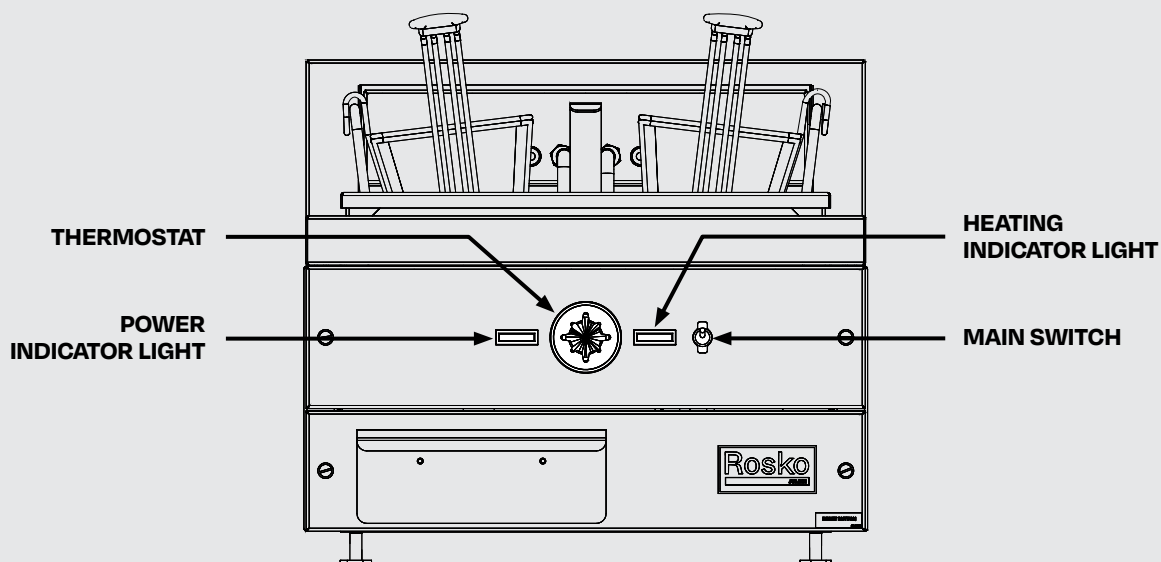

Figure 9
4. Adjust the thermostat to the desired position. The red light will turn on to indicate that the elements are heating. **(Figure 9)**